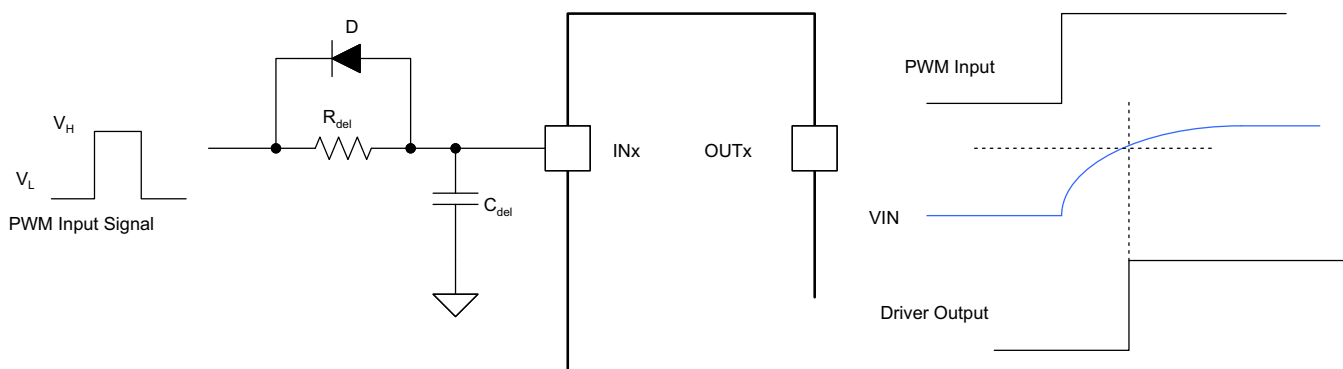

Figure 21. Using RCD Circuits
- Ability to accept slow dV/dt input signals, which allows designers to use RCD circuits on the input pin to program propagation delays in the application, as shown in Figure 21.
The acceptable propagation delay from the gate driver is dependent on the switching frequency at which it is used and the acceptable level of pulse distortion to the system. The UCC27528-Q1 device features fast 17-ns (typical) propagation delays which ensures very-little pulse distortion and allows operation at very high-frequencies. See the Switching Characteristics table for the propagation and switching characteristics of the UCC27528-Q1 device. For certain application that require programmable propagation delay, The UCC27528-Q1 device can accept slow dv/dt input signals which allows designers to use RCD circuits on the input pin to program propagation as shown in Figure 21.